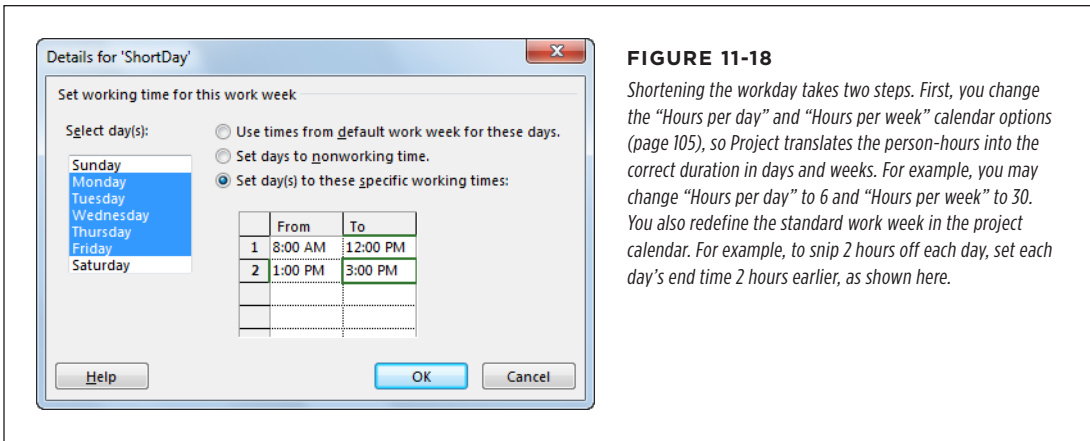

FIGURE 11-18
- **Shorten the standard Project workday.** If non-project work consumes 25 percent of each day, an 8-hour day contains only 6 productive hours, and a work week is 30 productive hours. The fastest way to come up with realistic task durations is to reset Project's standard 8-hour workday to fewer hours, as shown in Figure 11-18.